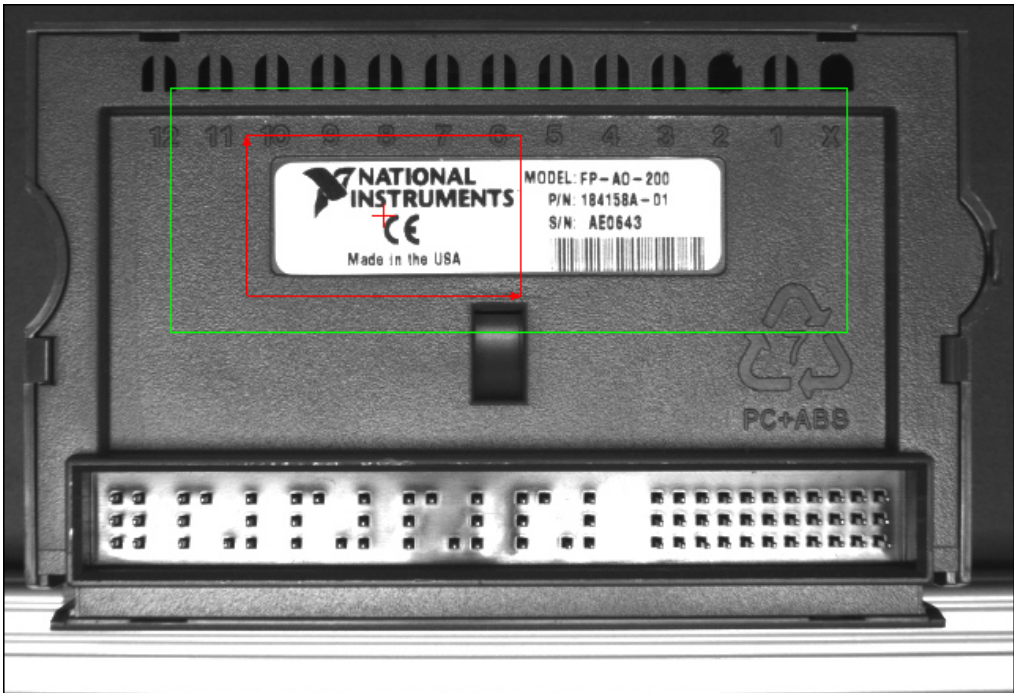

Figure 1-5. Limiting the Search Region
6. Redraw or decrease the default green region of interest so that it surrounds only the portion of the device that contains the learned template, as shown in Figure 1-5.